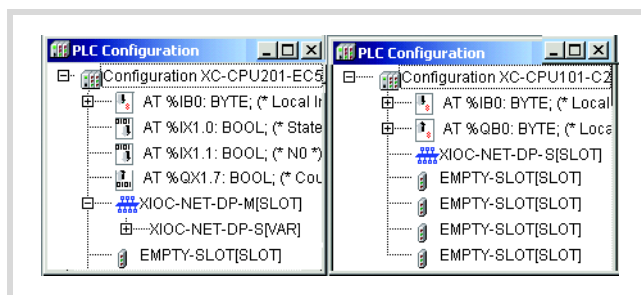

Figure 78: XC200 configuration
- ▶ First of all configure the XC200 according to Figure78.